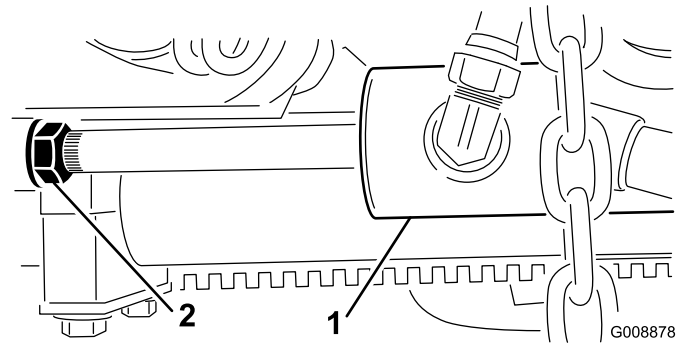

Figure 29
2. Loosen the jam nut on the lift-cylinder rod (Figure 29).